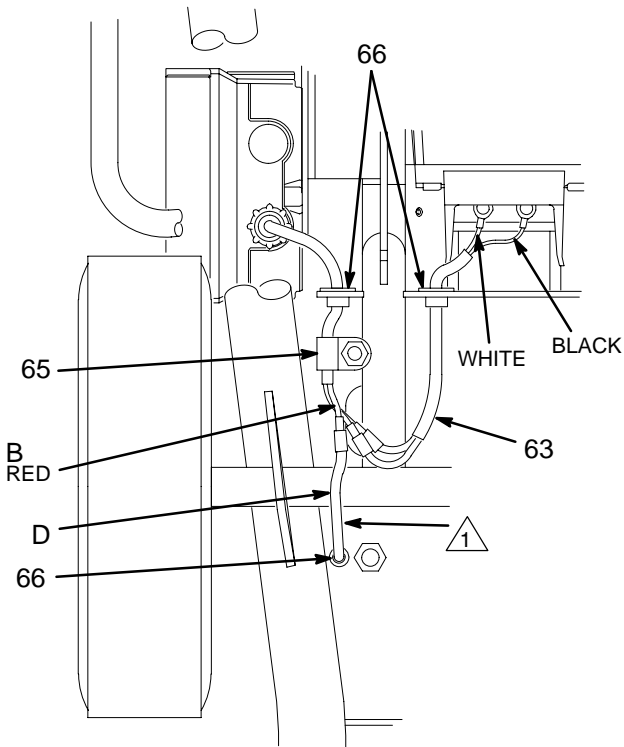

Fig. 15 Bottom View of Engine and Cart
1. Working under the mounting plate (A), remove the two lock nuts (51) and then pull the screws (50) out of the base of the engine. Disconnect the red wire (B) from the engine lead (D). Disconnect the black and white wires from the field. Pull the wires (63) and (D) carefully through the grommets (66) before removing the engine. See Fig. 15 and 16.